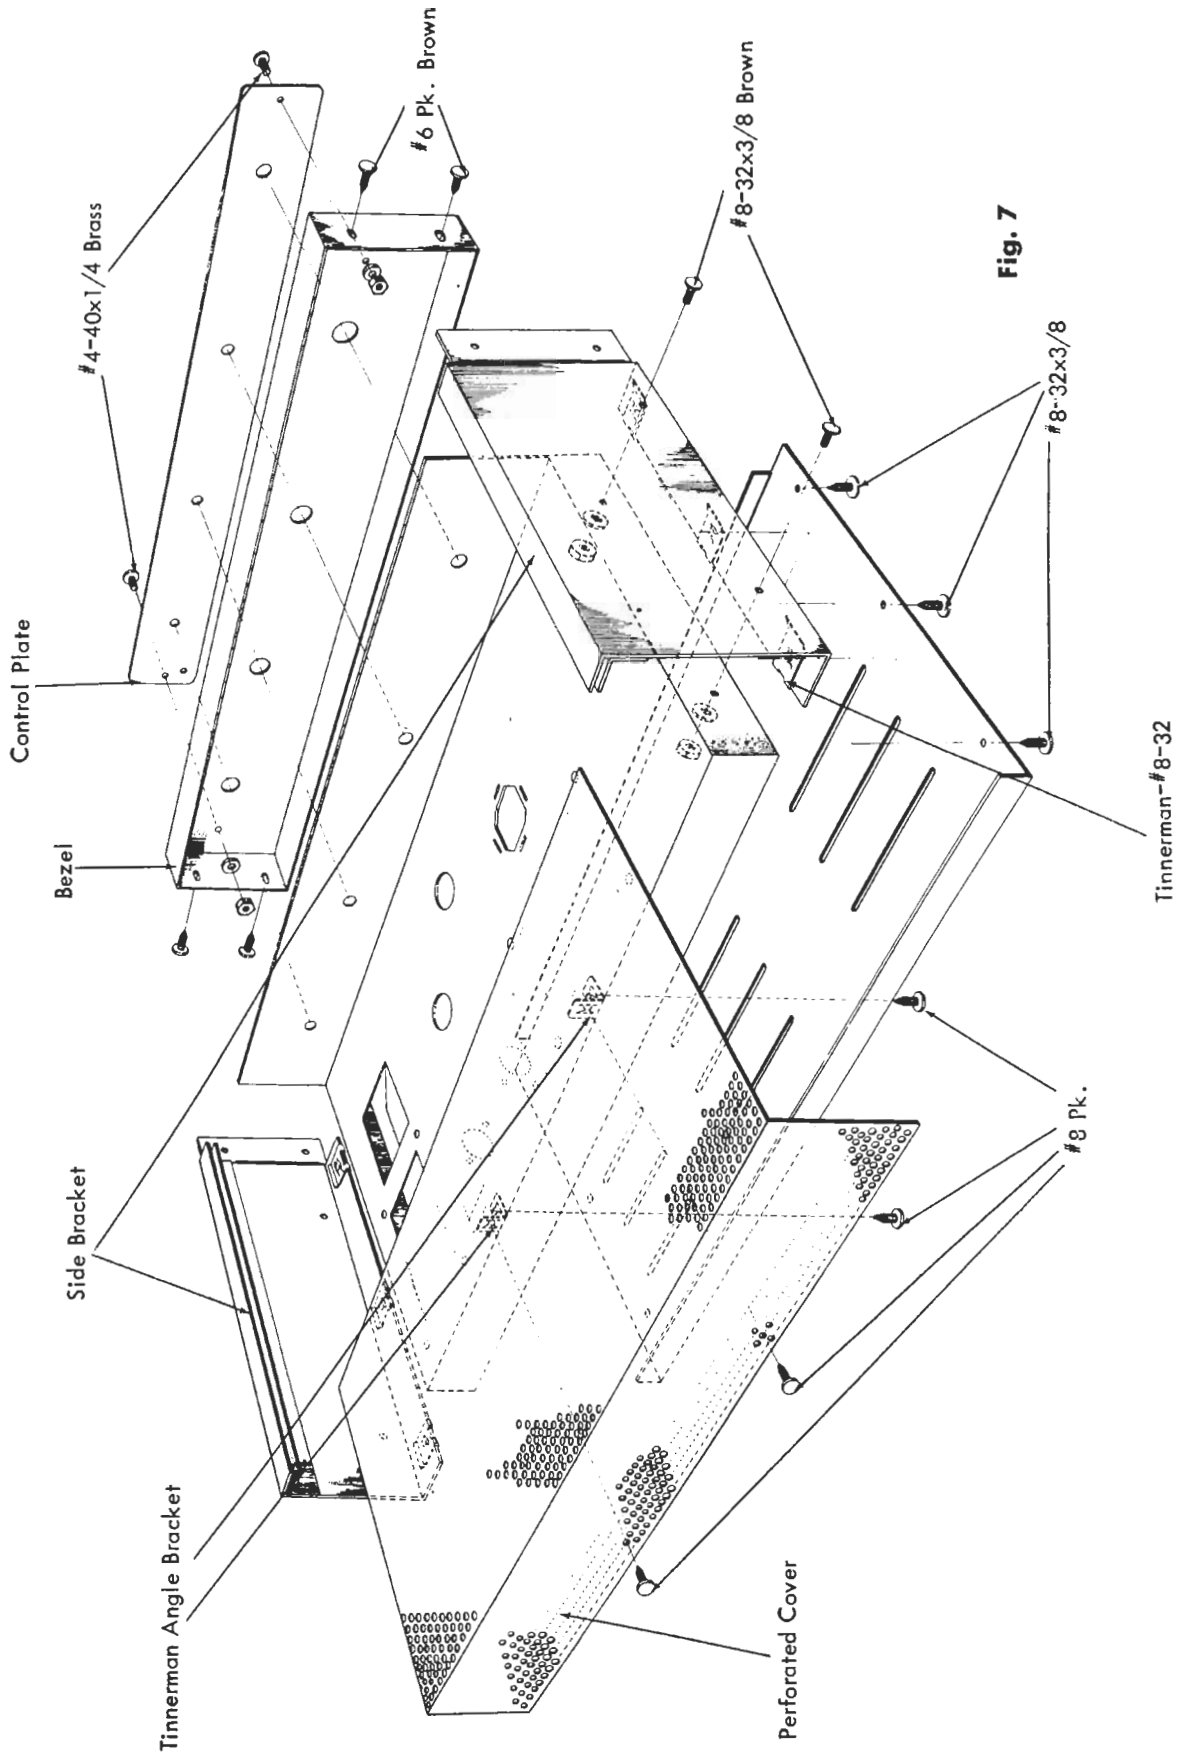

Fig. 7
4. () Fig. 7. Assemble the left and right side pieces to the chassis. Each side piece is mounted with two #8-32 X 3/8 brown colored screws, two #8-32 hex nuts, and two #8 lockwashers.
5. () Fig. 7. On the rear edge of the chassis surface, mount the two Tinnerman speed nut angle brackets, using a #8 P.K. - Type Z screw for each.
6. () Fig. 7. On the bottom flange of each side piece, press a Tinnerman #8-32 - Type J speed nut in place over each of the three holes.
7. () Fig. 7. Mount the bottom plate on the bottom flanges of the side pieces, using six #8-32 X 3/8 uncolored screws. Note that the rear flange on the bottom plate fits over the outside of the rear chassis apron.
8. () Fig. 7. Install the rubber feet in the openings provided in the bottom plate. The method is to work the rounded portion of each foot into the interior
9. () Fig. 7. Insert the perforated cover into the "rails" on the side pieces and slide it forward fully.
10. () Fig. 7. Mount the control plate on the bezel (locating the hole for the plastic pilot jewel in the lower right-hand corner of the control plate over the corresponding hole in the bezel), using two each #4-40 X 1/4 brass screws, #4 lockwashers, and #4 hex nuts to fasten it to the bezel. Press the plastic pilot jewel into place on the control plate.
11. () Fig. 7. Fit the bezel and control plate over the projecting control shafts, onto the ends of the side pieces and the perforated cover. Assemble the bezel to the side pieces with four #6 X 1/4 brown colored P.K. screws. Before tightening the screws finally, be sure there is adequate play to slide the perforated cover out.
12. () Fig. 7. Fasten the perforated cover to the two Tinnerman angle brackets (previously mounted on the rear edge of the chassis surface), using two #8 P.K. Type Z screws.
13. () Fig. 7. Set all controls to the furthest counter-clockwise position. Mount the knobs on the shafts with the indicating dots pointing as follows: SELECTOR knob at AUX; VOLUME knob at 0; BASS knob at -5; TREBLE knob at OFF.